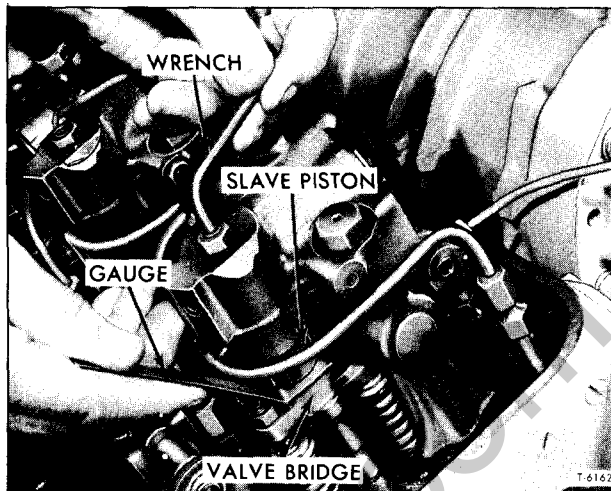

Figure 40—Adjusting Slave Piston Clearance
13. Turn engine crankshaft to point where exhaust valves are closed and injector is in fuel-delivery position. Loosen lock nut on slave piston adjusting screw, then with wrench and special feeler gauge (fig. 40) adjust slave piston-to-valve bridge clearance to 0.066 inch and tighten lock nut. Recheck clearance at both feet of slave piston. If clearance differs between the two piston feet, adjust clearance under foot having least space. Hold